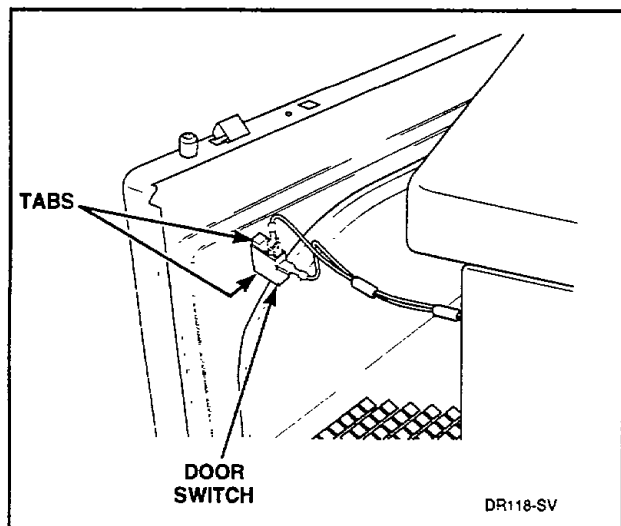

Figure 12
- l. Disconnect wires from door switch, *Figure 12*.
- Disconnect wires from door switch, *Figure 12*.
- m. Disconnect wires from door switch, *Figure 12*.